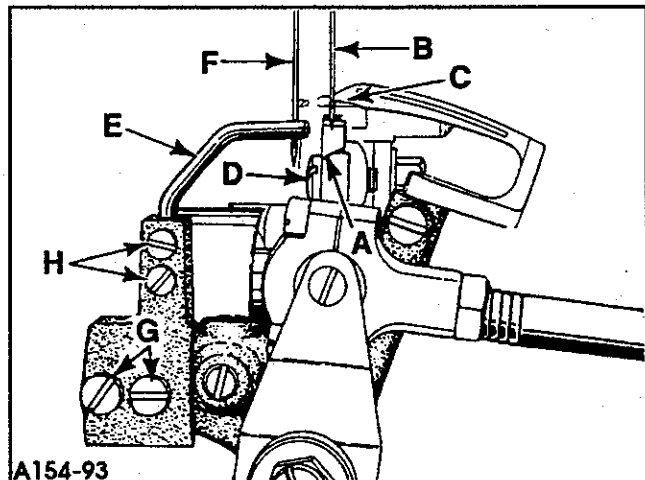

FIG. 15
Set the rear needle guard (A, Fig. 15) height so that when the looper point (C) is even with the right side of the right needle (B), the tip of the needle is approximately  $3/64$ " (1.2mm) below the top of the guarding surface. Set the guard (A) front to back to touch but not deflect the right needle (B). Adjustment can be made by loosening screw (D), reposition guard as required and re-tighten screw.
Front needle guard (E, Fig. 15) must deflect the left needle (F) towards the path of the looper (C) as it moves behind the needle. The looper (C) must not touch the needle (F) at loop taking time, a maximum clearance of 0.002" (0.05mm) is permissible. Forward or rearward adjustments can be made by loosening screws (G), reposition guard as required and re-tighten screws. Height or rotation of guard should be  $1/3$  up from the tip of the needle, this can be acquired by loosening screws (H), reposition as required and re-tighten screws.